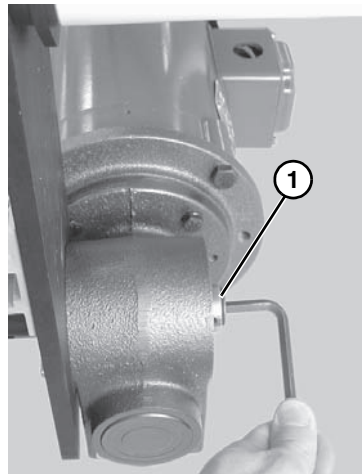

Figure 16
2. Loosen M10 shaft locking screw (**Figure 16, item 1**).